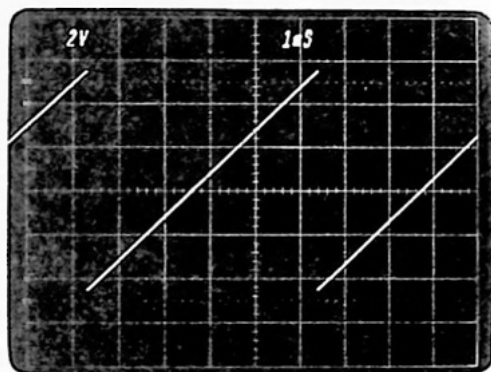

Figure 6-17 _____
Step 12 — Observe the oscilloscope display. You should observe the ramp (sawtooth) waveform pictured in Fig. 6-17. Measure the output waveform amplitude and frequency. Our waveform had a peak amplitude of 10 volts and a frequency of approximately 200 Hz.